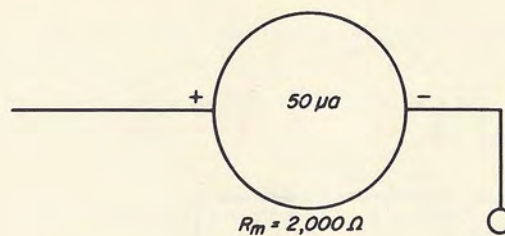

Fig. 11-8
Step 1. Draw a schematic symbol of the meter movement of your multimeter. Indicate the current drawn by the meter and the resistance of the meter movement. Your drawing should look like Fig. 11-8.